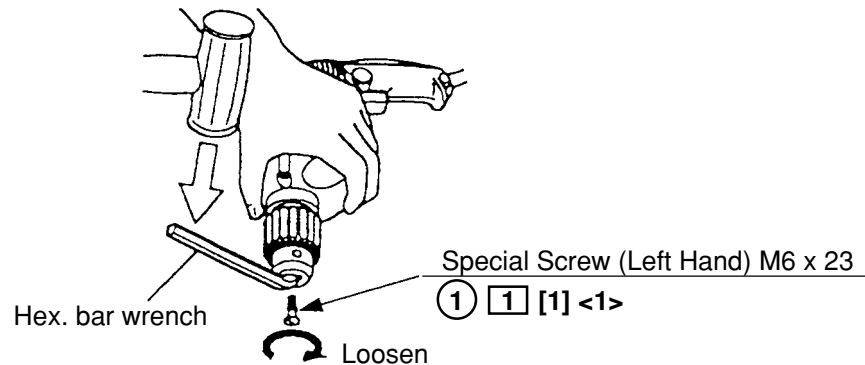

Fig. 15
- a. Hold the drill so that only the Drill Chuck (4) [4] [4] <4> rest firmly and squarely on the edge of a solid bench. Install the hex. bar wrench into the Drill Chuck. Turn the Drill Chuck until the wrench is at about a 30° angle to the bench top and strike the wrench sharply with a hammer so the drill chuck turns in the counterclockwise direction. (Fig. 15)